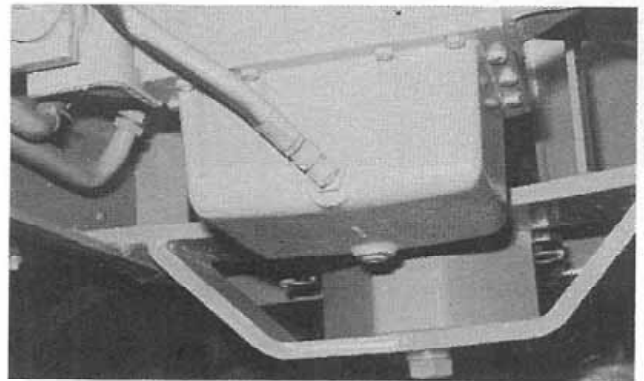

Figure 8:
11. Replace the oil suction hose at the front of the transfer case oil reservoir (Fig. 8). After tightening, be sure it is not twisted or otherwise reduces the flow of oil.